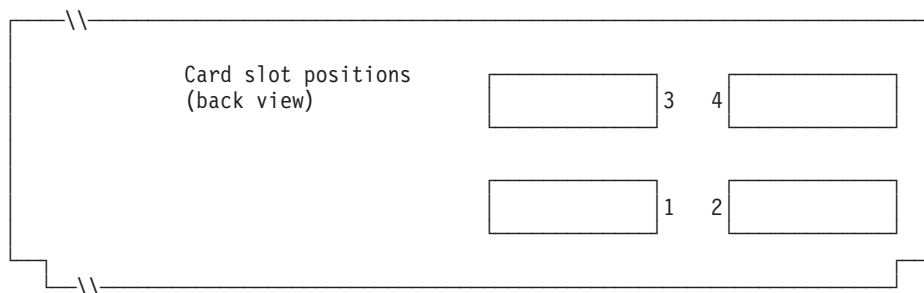

Figure 86. Rear of 4693-5x1 or 4693-7x1 controller/terminal
4. Mark an X on Figure 86 in each card slot that has a Dual Asynchronous Adapter installed **for use by terminal applications**. Do not mark an X if applications other than terminal applications use the card.